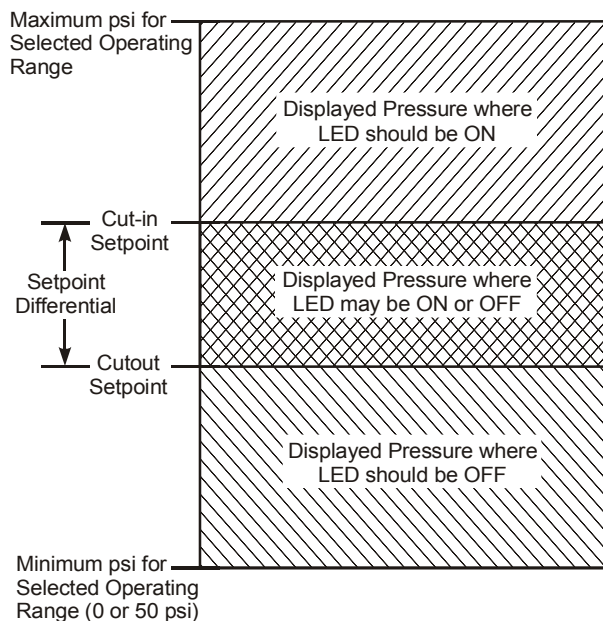

Figure 13: LED Status for Open-low Controls
- f. (Refer to Figure 13.) **If the control is operating as an open-low control and:**